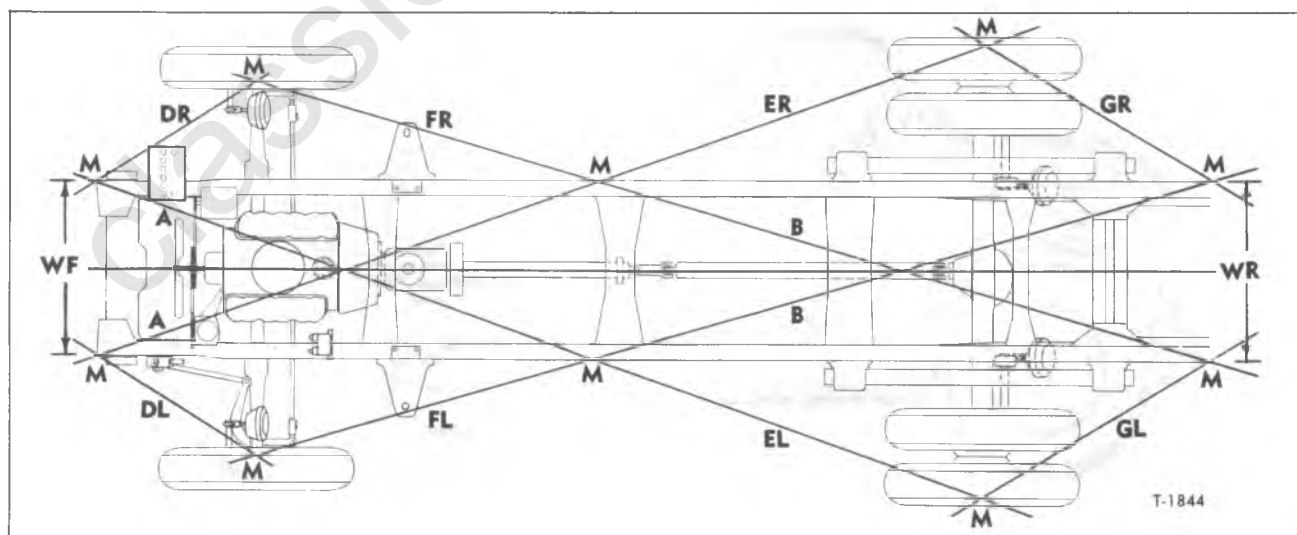

Figure 1—Typical Frame Alignment Points
Channel-type frame (fig. 1) construction with riveted crossmembers is used on all models. Frame side rails are usually of S.A.E. 1023 steel. Figure 1 illustrates typical arrangement of frame mounted suspension and body attaching brackets.
must be used on the right rail. The illustration (fig. 1) is used merely to serve as a guide in the selection of checking points "M."
NOTE: Key letters in the following text refer to figure 1.
5. After it has been determined that the frame is properly aligned, axle alignment with respect to the frame can be checked as directed below (see fig. 1):